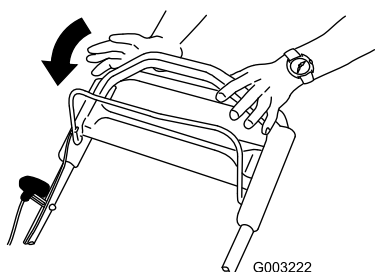

Figure 16
1. Release the blade control bar (Figure 16).